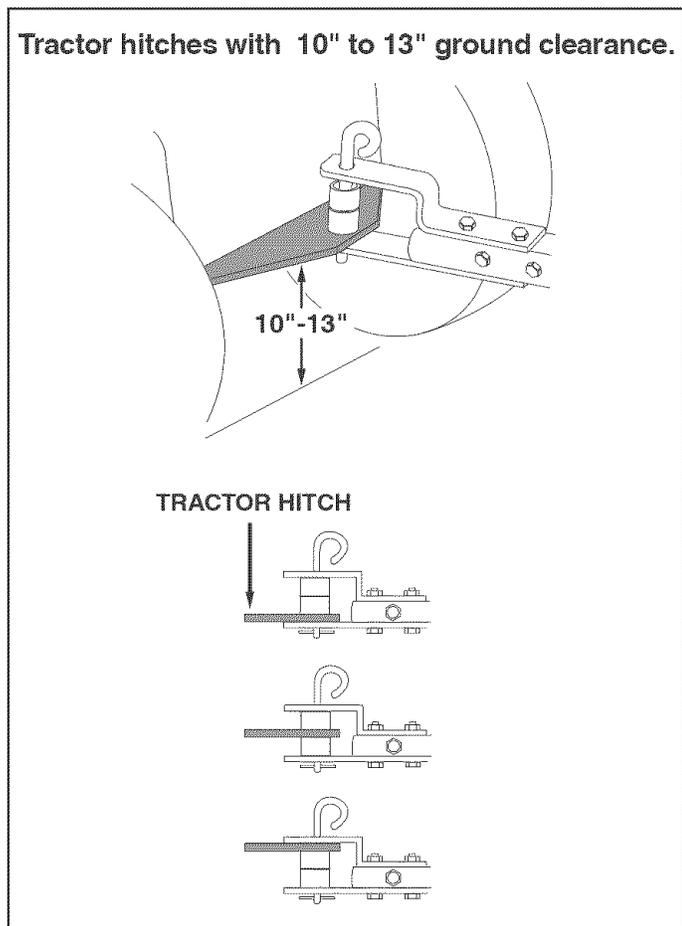

FIGURE 24
- Attach the sweeper hitch brackets to the tractor hitch, arranging the 3/4" spacers so that the bottom of the sweeper bag is approximately level and 5" to 7" above the ground. See figure 24 for tractor hitches that are 10" to 13" above the ground. See figure 25 for tractor hitches that are 8" to 10" above the ground.